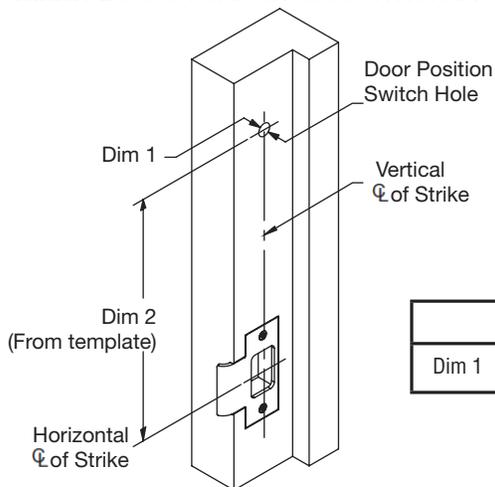

Fig. 2B
2. Secure the exit chassis by through bolting to the ET trim with (2) 1/4" -20 x 2-3/8" flat head machine screws.
3. For wood door applications, attach Ground Harness as shown in Fig. 2B, using the top through-bolt screw